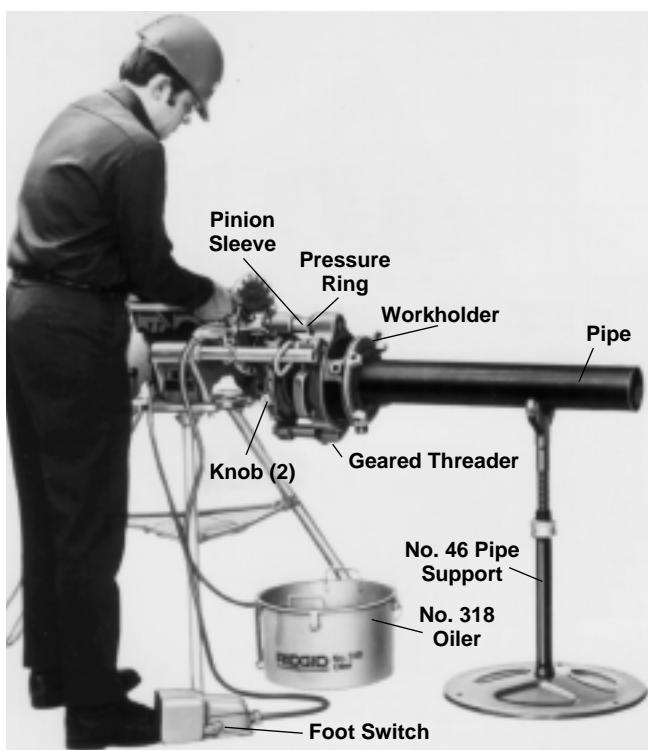

Figure 18 – Threading Pipe with No. 141 Geared Threader (Close-Coupled Method) (No. 161 Threader Similar)
9. Position No. 318 Oiler directly under threader (Figure 18).
10. Support long piece of pipe with pipe support (Figure 18). Position approximately  $2\frac{1}{2}$  feet from threader.
5. Flood dies (Figure 18) with RIDGID Thread cutting oil during threading operation to assure long Die life.